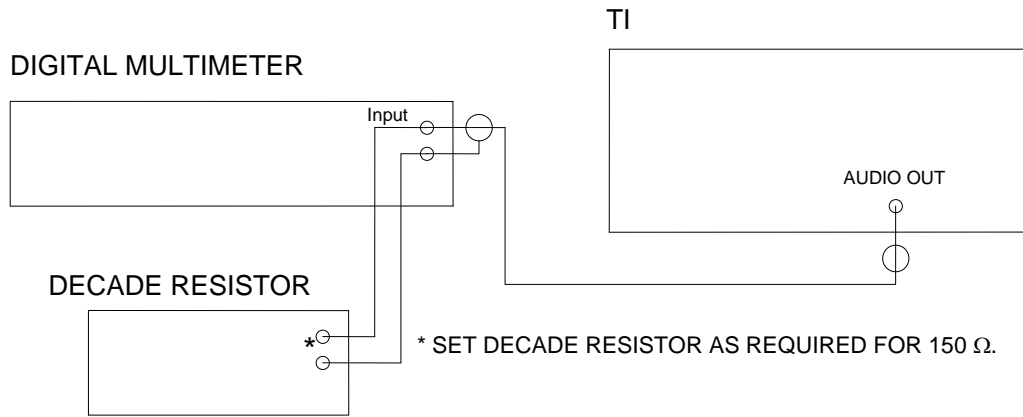

Figure 1.
4.4.2.1 Connect equipment as shown in Figure 1.